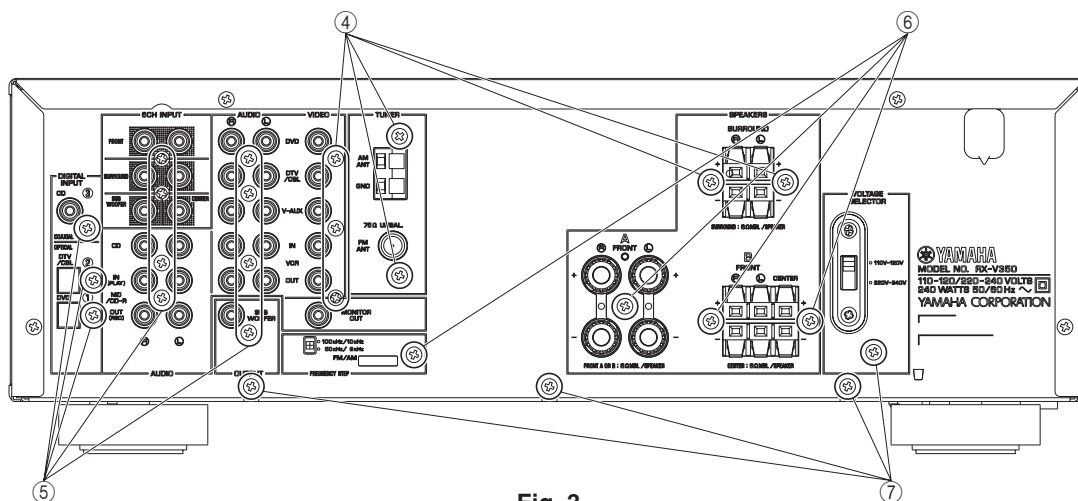

Fig. 3
- Remove 7 screws (④). (Fig. 3)
- Remove 11 screws (⑤). (Fig. 3)
- Remove 4 screws (⑥). (Fig. 3)
- Remove 4 screws (⑦). (Fig. 3)
- Remove 4 screws (7). (Fig. 3)